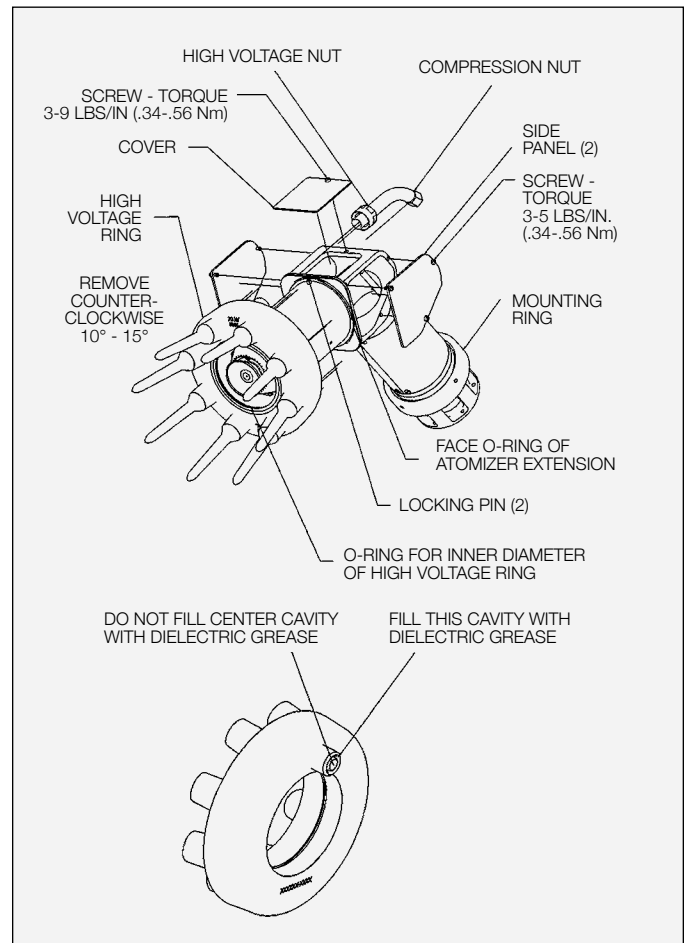

Figure 19: Atomizer Removal
- Remove curved tube (A11691-00) and lock-nut (A11318-00) to ensure proper grooves are filled with dielectric grease before cable installation (see Figures 19 or 53). Remove and clean any excess grease after assembly.